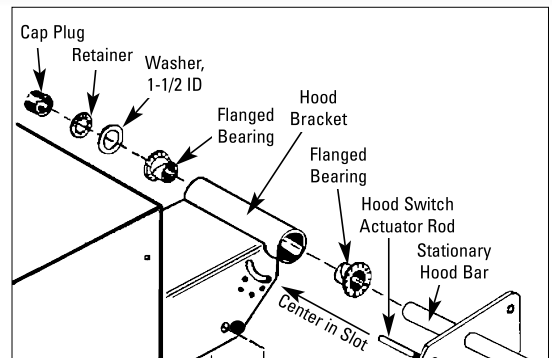

Figure 3 - Hood Assembly Installation
8. Slide one flanged bearing onto the stationary hood bar; flange to cam (figure 3).
11. Slide the other flanged bearing into position followed by the washer, retainer and cap plug (figure 3).